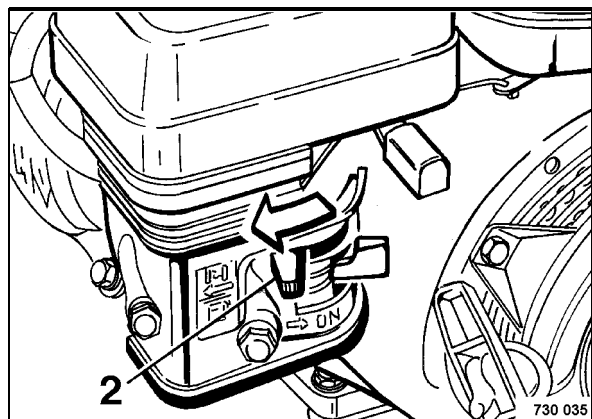

Fig. 11
- If the engine stops again under cold weather conditions after approx. 3 to 5 seconds, close the choke again with lever 2 (Fig. 11) and repeat the starting process.